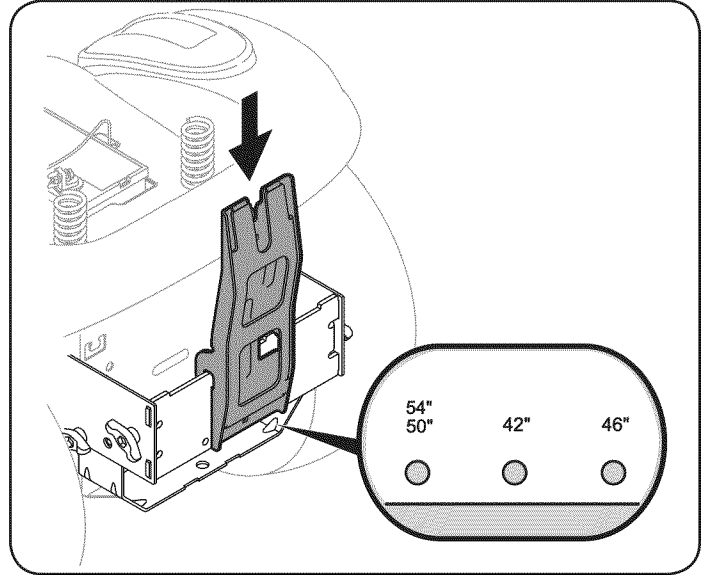

Figure 7
5. Install the upright support bracket onto the mounting assembly on the tractor by hooking it over the cross mounting bracket and aligning it with the mounting hole indicating the deck size your machine is equipped with, as shown in Figure 7.
Note: The mounting bracket includes a stamping above each mounting hole indicating which position to mount the upright bracket. See the inset of Figure 7.